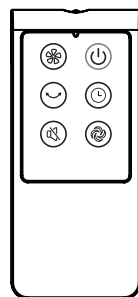

Fig.10
1. Remote Controller (Fig.10)
- (1) Slide the battery compartment Cover.
- (2) Insert the batteries, and make sure that the batteries are placed as shown in the Fig.10.
- (3) Slide back the battery cover.